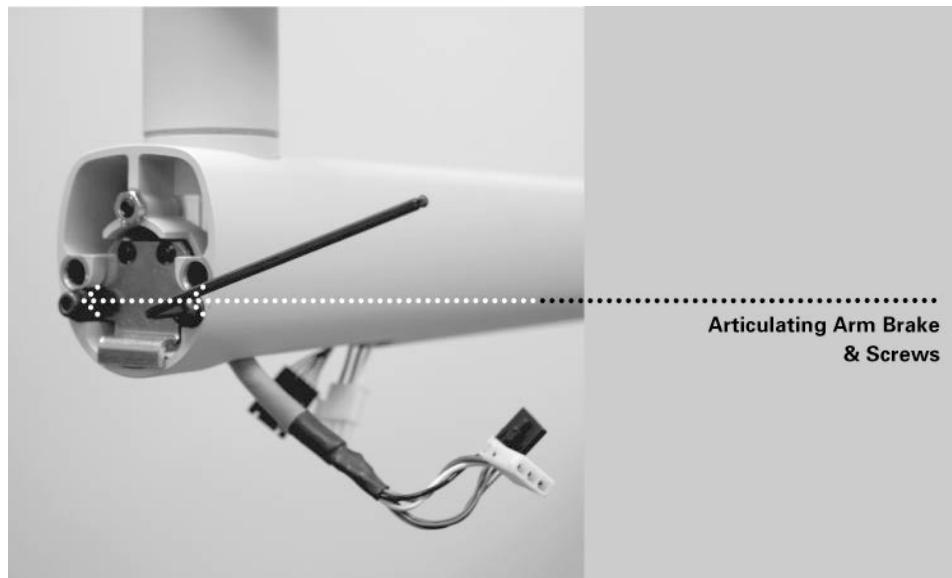

Figure 22
3. Using a 3 mm Allen wrench, install the Articulating Arm brake. Tighten screws until the Articulating Arm brake comes into contact with the shaft of the Articulating Arm. If additional friction is required to prevent drifting, turn the two screws evenly $\sim\frac{1}{4}$ turn at a time until drift stops, as shown in *Figure 22*.